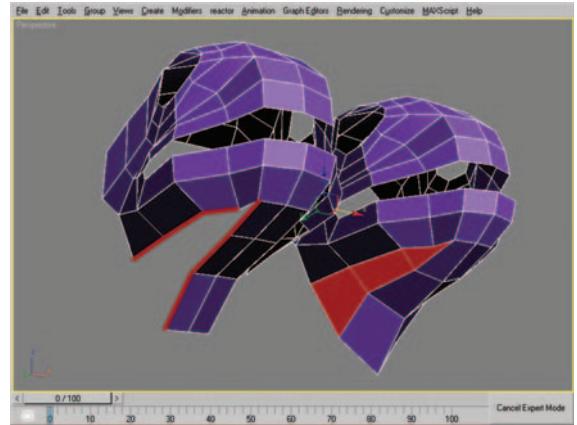

Figure 9.22 Edge selection and resulting mesh after bridging the selection.
22. Using Bridge, fill the gaps between the new polygons we just created and the existing polygons. Figure 9.22 shows the edge selection (six edges) and the bridged result. Note that we create a four-sided Tri.